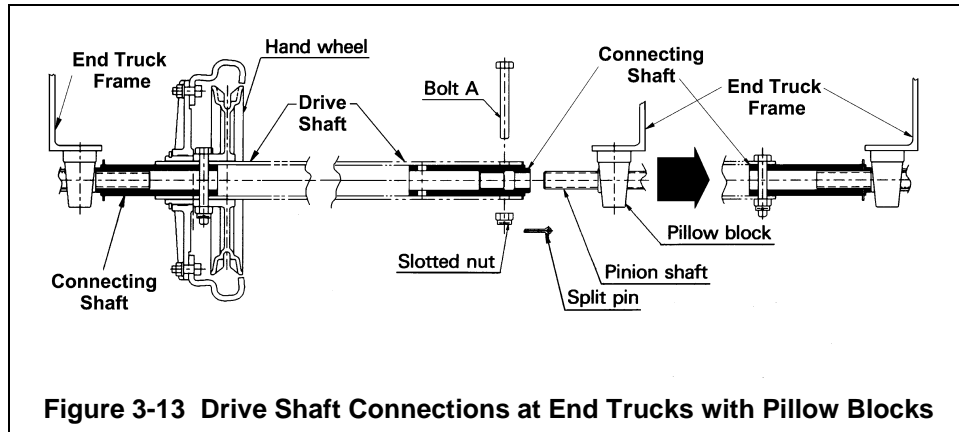

Figure 3-13 Drive Shaft Connections at End Trucks with Pillow Blocks
- (1) Slide the Hand Wheel over the Hand Wheel End of the Drive Shaft (the Hand Wheel end of the Drive Shaft is the end with a through-bolt hole two inches from the shaft end).
- (2) Refer to Figure 3-13 or Figure 3-14 whichever applies and insert the connecting shafts into both ends of the Drive Shaft. Line up the three holes at the Hand Wheel end - hole in the hub of the Hand Wheel, hole in the Drive Shaft and the hole in the Connecting Shaft. Insert the long Bolt B and fasten using the nut and split pin.
- (3) Next, hold the Hand Wheel end of the Drive Shaft adjacent to the splined Pinion Shaft/Axle. Slide the Connecting Shaft onto the Pinion Shaft/Axle. Refer to Figure 3-13 or Figure 3-14 whichever applies.
- (4) Last, line up the remaining end of the Drive Shaft with the splined Pinion Shaft/Axle on the other end truck and slide out the Connecting Shaft from the end of the Drive Shaft until the through-bolt holes line up between the Connecting Shaft and Drive Shaft. Fasten the Drive Shaft to the Connecting Shaft using Bolt A, the slotted nut and split pin.
- (2) Refer to Figure 3-13 or Figure 3-14 whichever applies and insert the Connecting Shaft into the Hand Wheel end of the Drive Shaft. Line up the three holes - hole in the hub of the Hand Wheel, hole in the Drive Shaft and the hole in the Connecting Shaft. Insert the long Bolt B and fasten using the nut and split pin.
- (1) Refer to Figure 3-13 or Figure 3-14 whichever applies and insert the Connecting Shaft into the end truck side of the Drive Shaft (the end truck "end" has the through-bolt hole 51 mm from the end of the Drive Shaft). Leave the Connecting Shaft fully inserted. Do not line up the through-bolt holes and do not fasten yet.
- (2) Slide the end truck side of the Drive Shaft (with connecting shaft fully inserted) onto the splined Pinion Shaft/Axle of the end truck. Refer to Figure 3-13 or Figure 3-14 whichever applies. Do not attempt to line up holes or fasten hardware.